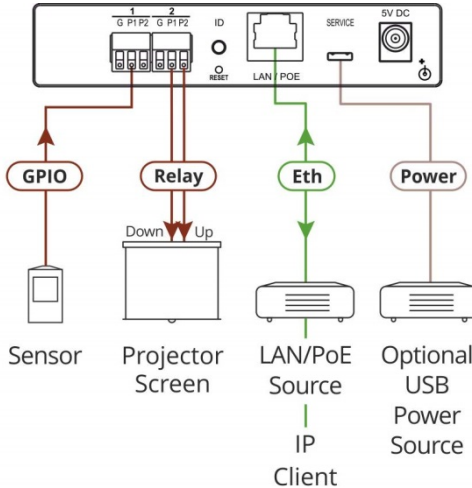

Figure 5: Connecting the FC-7P Ethernet Gateway – GPIO/Relay
To connect the FC-7P as illustrated in the example in Figure 5:
4. If the **FC-7P** does not receive power from a PoE provider or a USB power connection, connect the device to the power supply and connect the power adapter to the mains electricity (not shown in Figure 5).